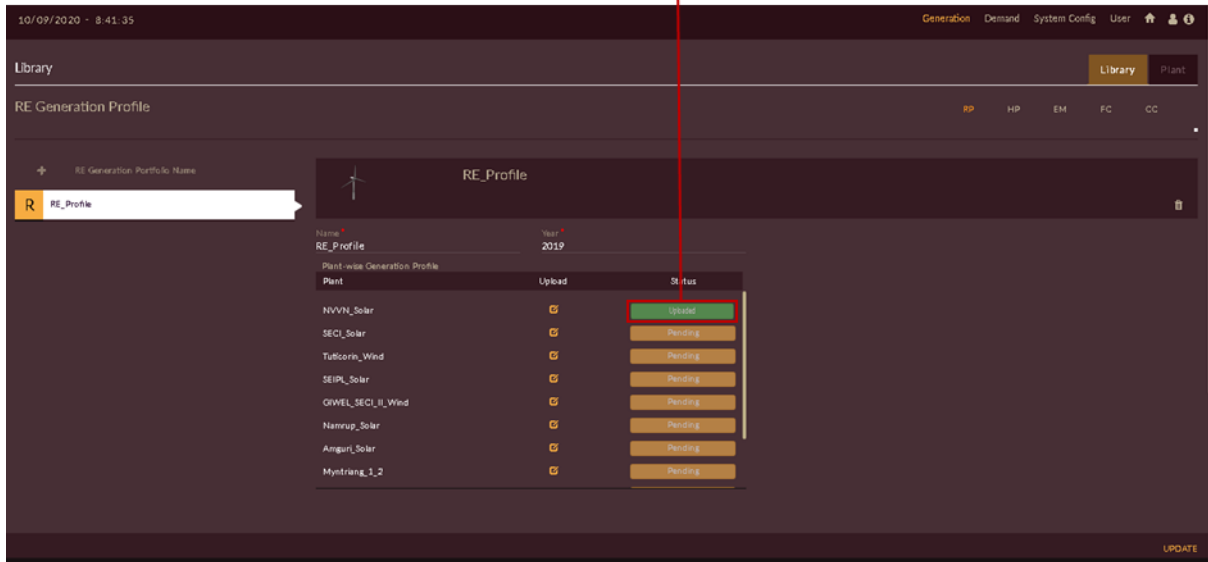

Figure 184. Uploaded Profile Indication
17. Once profile is imported successfully, **Pending**  indication will get changed to **Uploaded**  indication as shown in Figure 184.